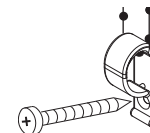

Figure 3
- ① Cord tension device comes pre-attached to bead chain (see Fig. 3), and must be attached to wall, jamb or sill so that the bead chain is held taut enough that children cannot pull it away from the wall or fit their head into the loop. **See safety note above.**